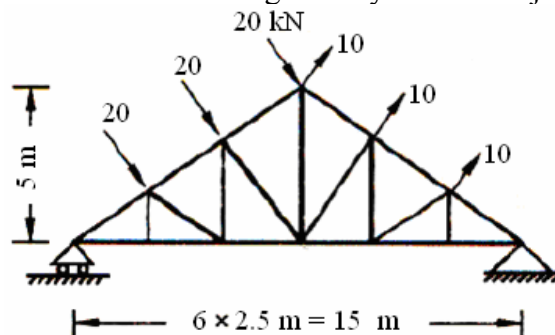

Figure 3:
3. Analyze the truss indicated in the figure 3 by method of joints. [16]